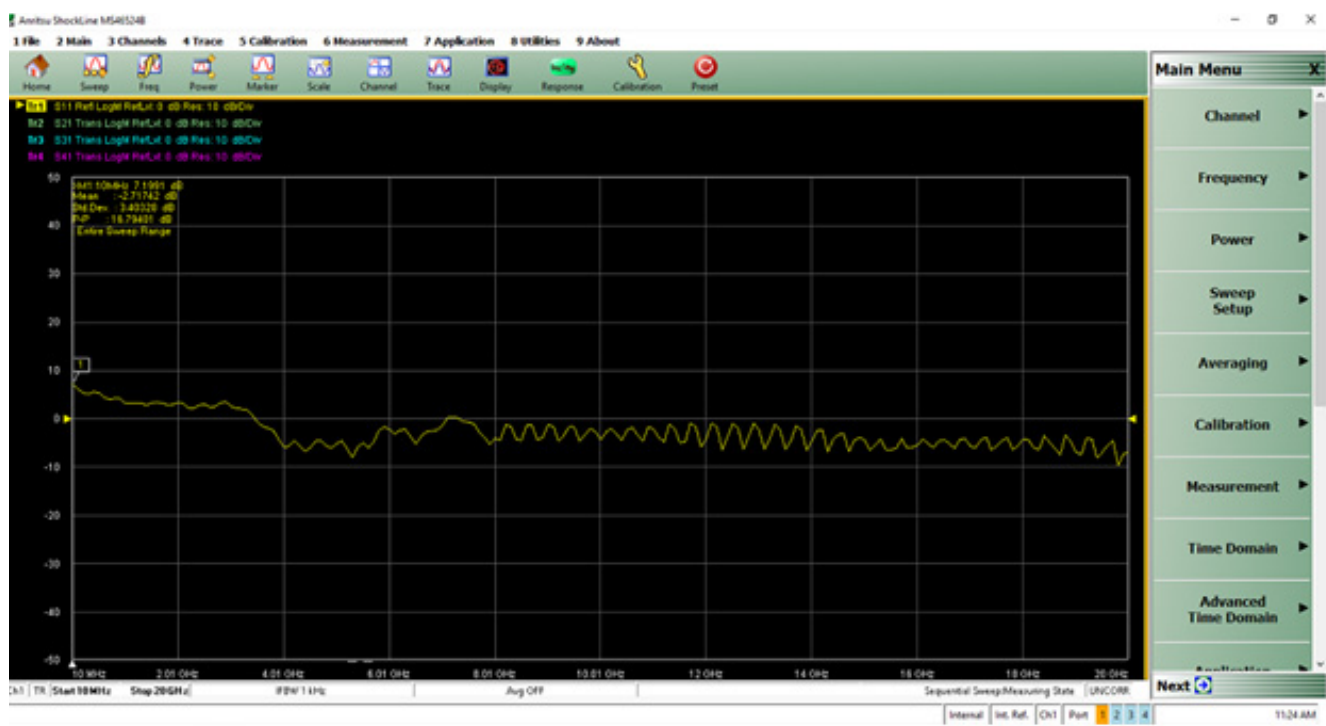

Figure D-40. Example 7 – ShockLine Display – Result After Run
5. Verify that the marker amplitude shown on the LabVIEW Front Panel matches the marker value displayed on the VNA Trace Display (Figure D-40).